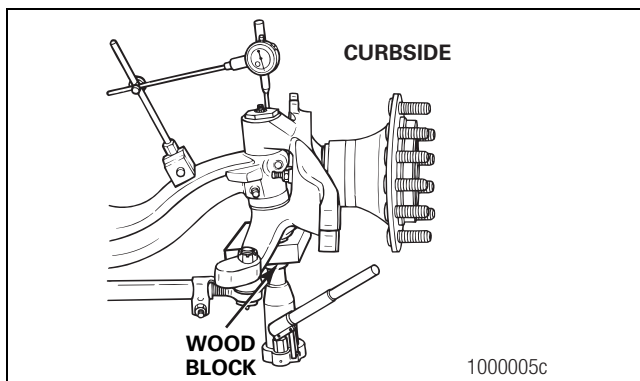

Figure 6.9
- C. Place a jack and a wood block, with a hole that allows clearance for the lower king pin grease fitting, under the lower king pin cap area. Figure 6.9.